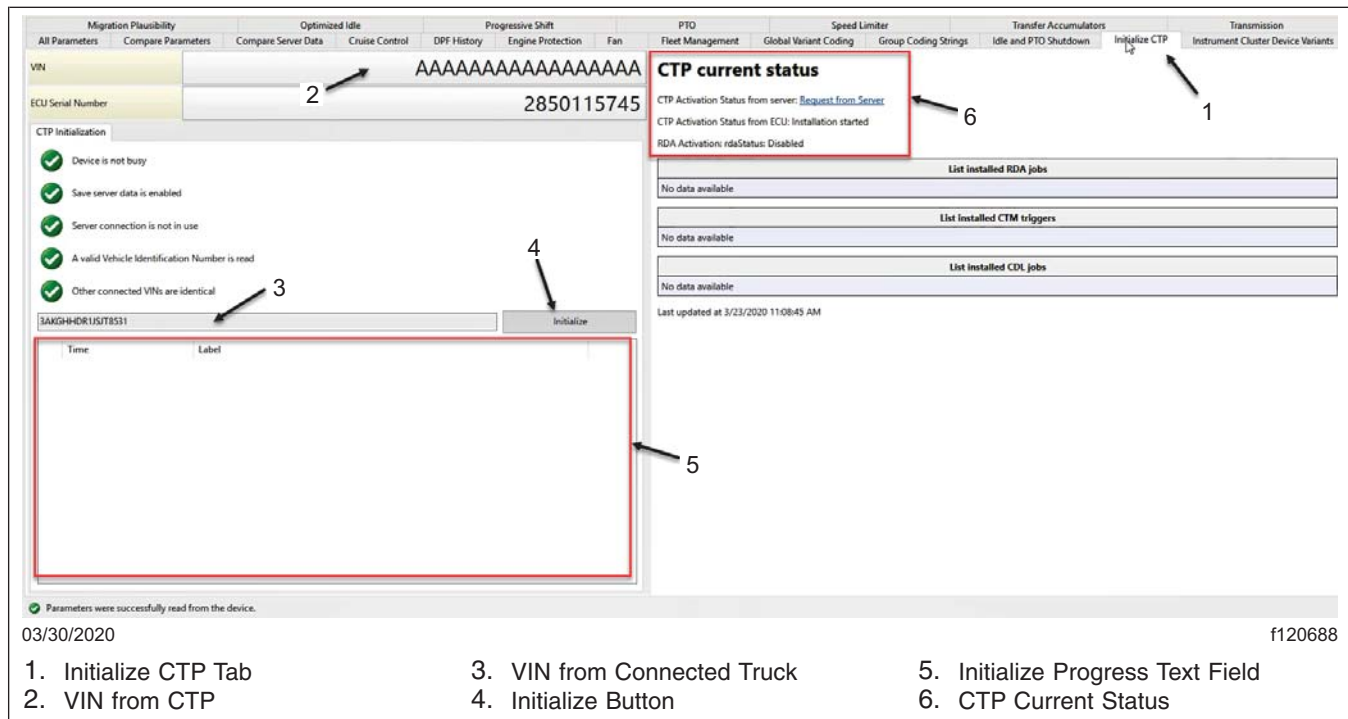

Fig. 8, Initialize Truck Data Center Panel
13. Navigate to "Parameters," allow the parameters to be read, then select the "Initialize CTP" tab. See **Fig. 8**.